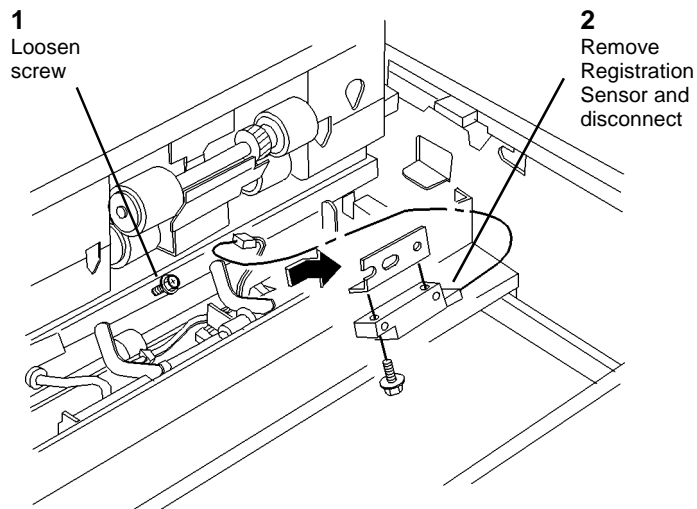

Figure 1 Removing Registration Sensor
5. Disconnect P/J580 and remove Registration Sensor (Figure 1).